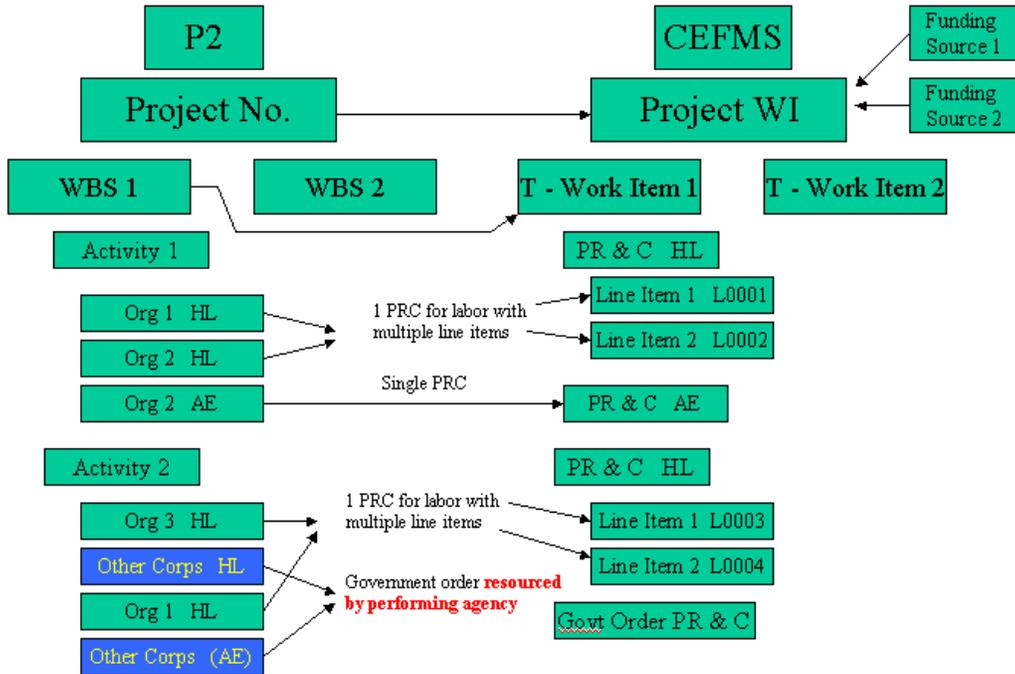

Figure 2. Work performed within “home” District.
- Once the PMP has been approved and baselined, (refer to *PMP Approval[PROC1018]*), Purchase Request and Commitments (PR&Cs) for the project can be created via a system interface. The interface will be executed upon user request. At a minimum, the user has the option to select the following: a) entire project, b) specific WBS or c) specific activities. PR&Cs will be systematically created for labor, government orders and contracts only. Figure 2 illustrates the interface between P2 and CEFMS, and the alignment between WBS elements and corresponding resource estimates, with the creation of work items and PR&Cs.